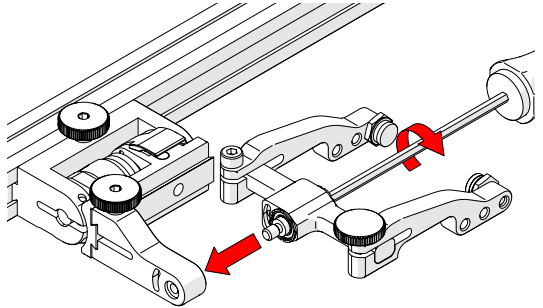

Fig. 65 - Install yoke to swing arm
6. Using the 3 mm hex driver, screw the yoke pivot screw into the opposite side of the probe holder swing arm (*Fig. 65*). Ensure the yoke is level to avoid issues with the plunger/set screw.